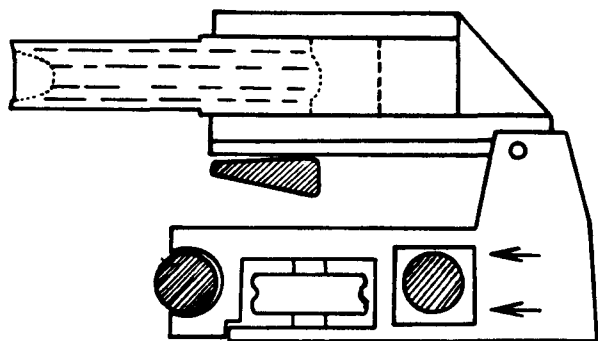

Figure 1
14. Cut run from pin 9 of J802. See Fig. 1
The 4662 can be visually inspected to determine if the rear of a pen carriage is positioned too high. Looking at the side of the pen carriage, observe the square hole surrounding the rear slide shaft. The slide shaft should be positioned closer to the top of the square hole. See figure 1.